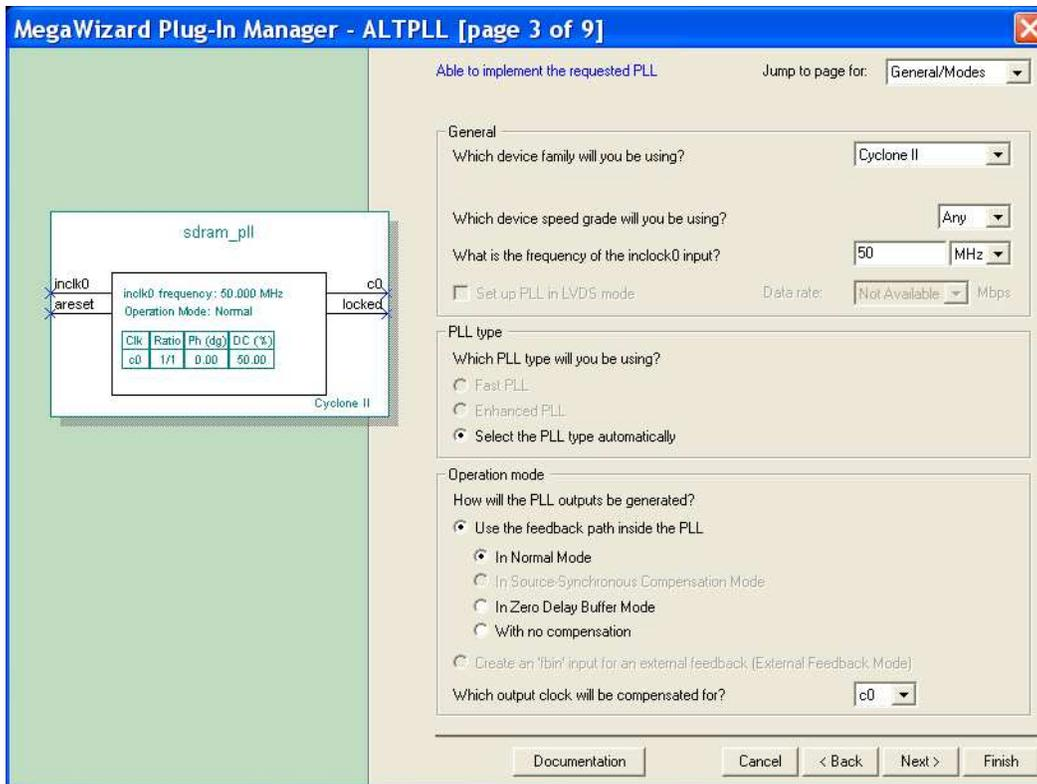
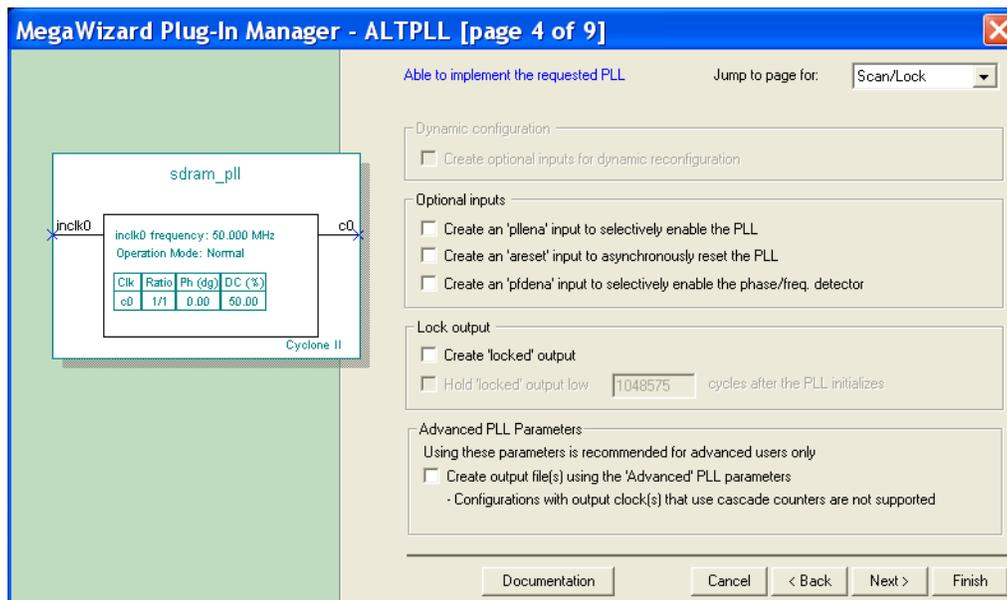

Figure 12. Define the clock frequency.
Figure 13. Remove unnecessary signals.
3. In Figure 12, specify that the frequency of the *inclk0* input is 50 MHz. Leave the other parameters as given by default. Click Next to reach the window in Figure 13.